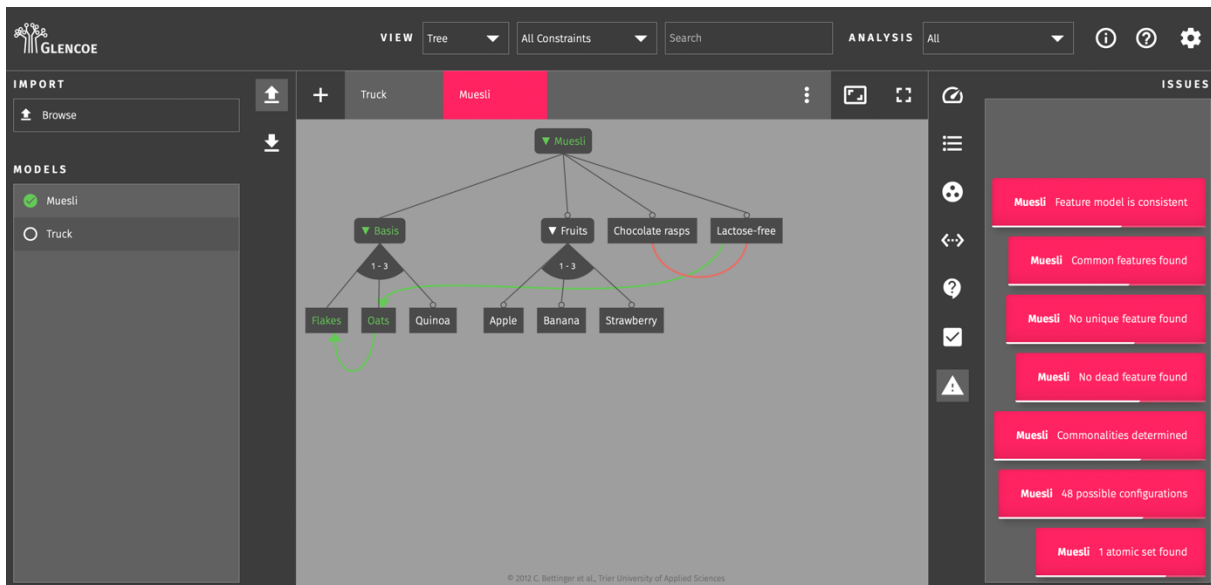

Figure 27: Repaired feature model
Otherwise, this issue can be remedied by changing the type of *Basis* to *Selection*. This increases the upper cardinality from 2 to the number of child features (3). For that reason, every muesli now contains oats and flakes but may or may not contain quinoa (see Figure 27).